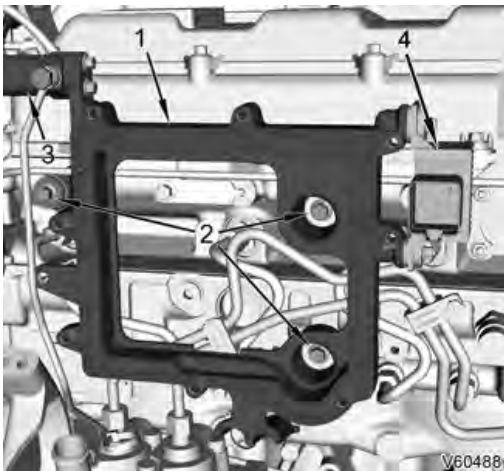

Figure 3. ECM Support
12. Remove eight mounting bolts and remove ECM from support (Figure 3).